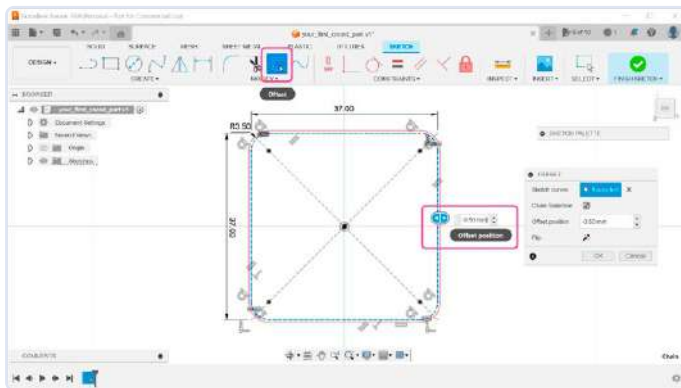

Figure 5: Offsetting the enclosure to get an easier fit for the encoder board.
5) We must offset the rounded rectangle to ensure the PCB fits freely (Figure 5). In the toolbar, select the *Offset* tool and enter a value of -0.5 mm.